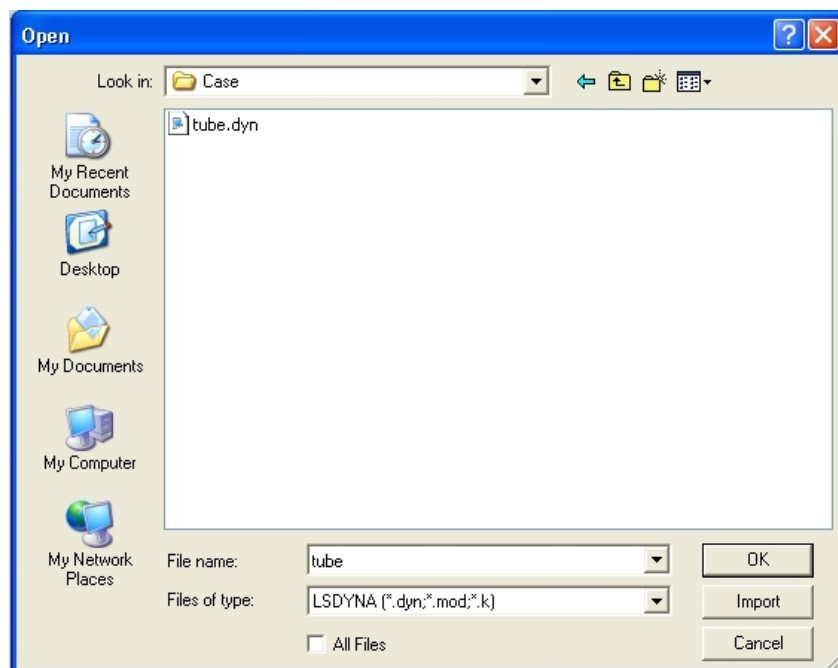

Figure 3.8.1 Select Input File window
1. eta/DYNAFORM prompts the user to select the input file from the window as illustrated in Figure 3.8.1.